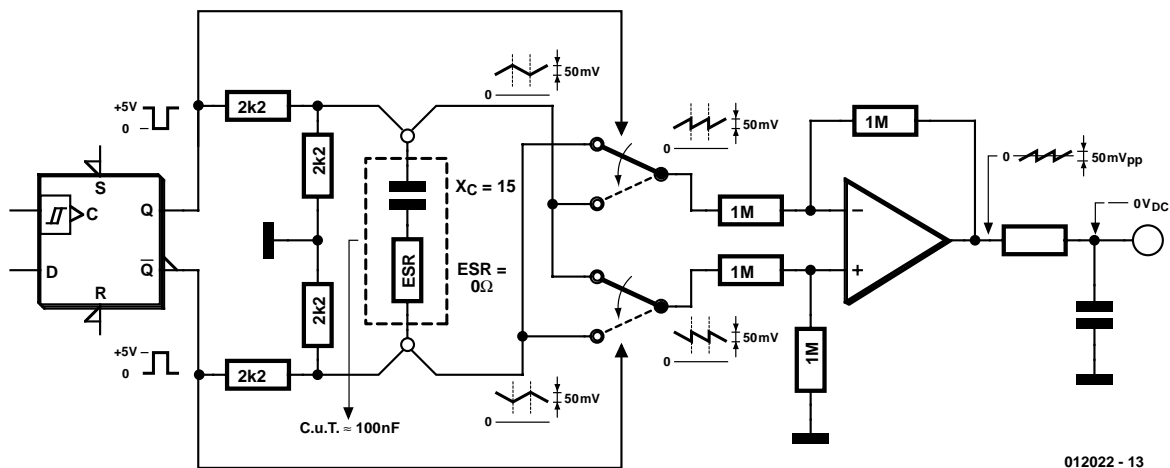

Figure 3. Second hypothetical test: C.U.T. is a 0.1- $\mu$ F capacitor with an ESR of 0  $\Omega$ .
**Figure 3** shows an example where the C.U.T. is 0.1-μF cap whose ESR is zero Ohms. As mentioned above we use a relatively high frequency to make the reactance negligible while enabling even the smallest electrolytics like 0.1-μF to be tested. For this it is necessary to reduce the influence of the beginning integration of the waveform even further. The ESR is zero and the reactance is 15 Ω. As can be seen, the integrated waveforms presented to the differential amplifier inputs result in a sawtooth centred around zero volts at the output. After integration, in the RC network that follows, a DC level of zero volts is fed to the voltmeter circuit. If the C.U.T. also represents an ESR of, say, 10 Ω, the sawtooth at the output will still have the same waveform. However, it will be DC-shifted in the positive direction by an amount representing